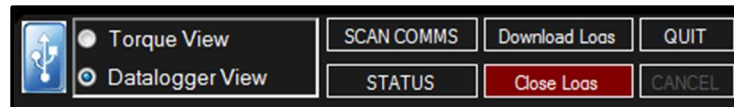

Figure 5.4-1: Close Logs Button
2. Select "Close Logs" located under the "Tool" menu or press the "Close Logs" button on the bottom of the Main Screen (Figure 5.4-1).